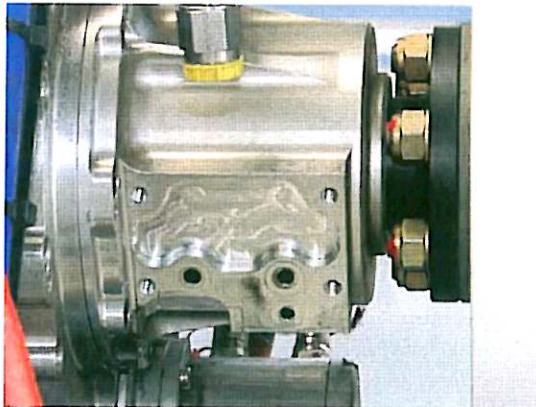

Figure 9
- 1. *Clean the ground plate at the gearbox with the help of paper towel(s). See Figure 9.*